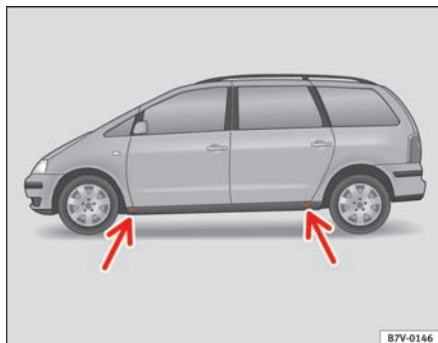

Fig. 161 The jacking points
1. Look for the jacking point ⇒ **fig. 161** (arrow) ⇒ ⚠ closest to the tyre which has to be changed.
The jack may be applied only at the jacking points shown ⇒ **fig. 161**. The front jacking point is about 11 cm from the wheel arch. The rear jacking point is about 14 cm from its wheel arch. Notches on both sides in the sills show where the jacking points are under the vehicle.